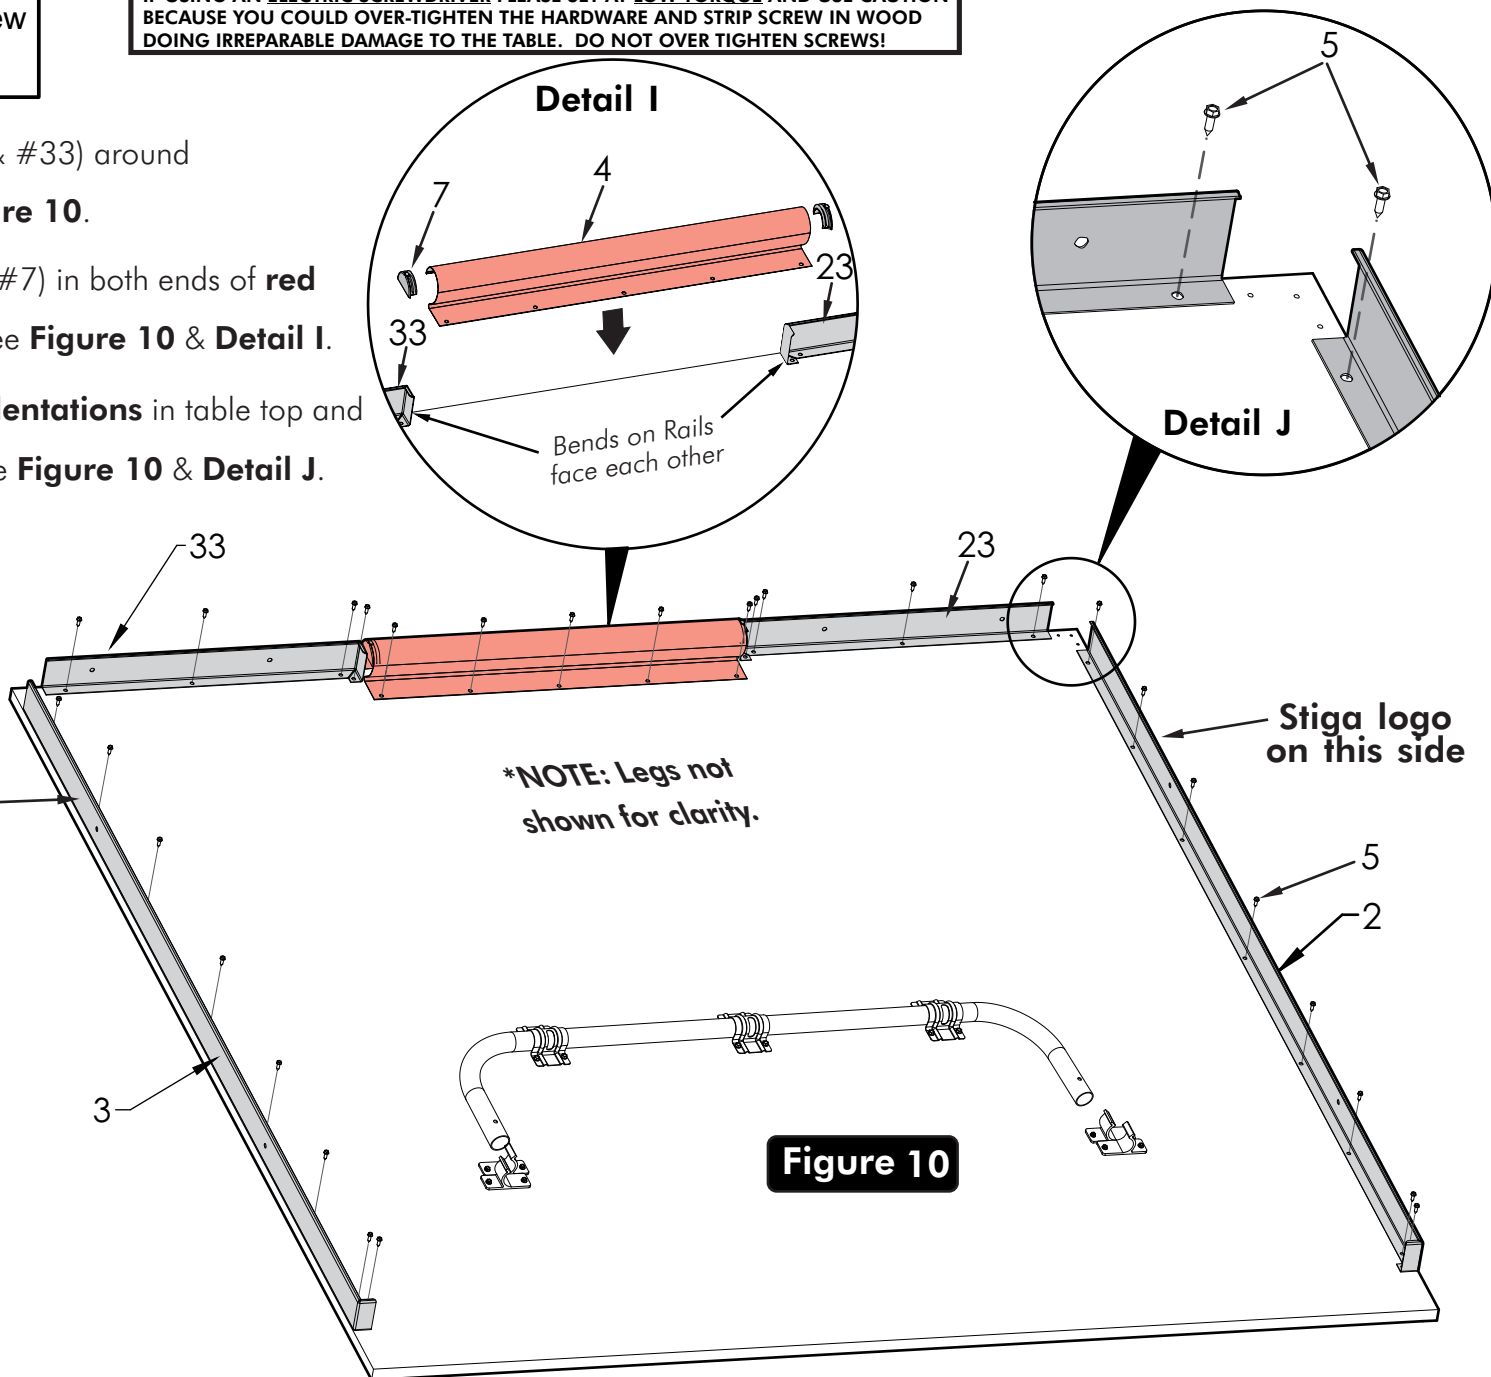

Figure 10
15. Lay out Rails (#2, #3, #23 & #33) around edges of table top. See **Figure 10**.
16. Place Ball Holder end Plugs (#7) in both ends of red Ball Holder End Rail (#4). See **Figure 10** & **Detail I**.
17. Line up holes in rails with **Indentations** in table top and secure using Screws (#5). See **Figure 10** & **Detail J**.